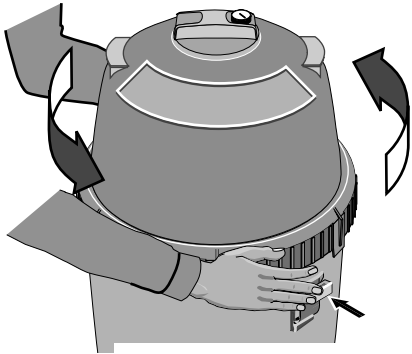

Figure 4 – Depress safety latch to unscrew Posi-Lok™ Ring.
- a. Press safety latch (below the ring) toward the tank to release it (see Figure 4).